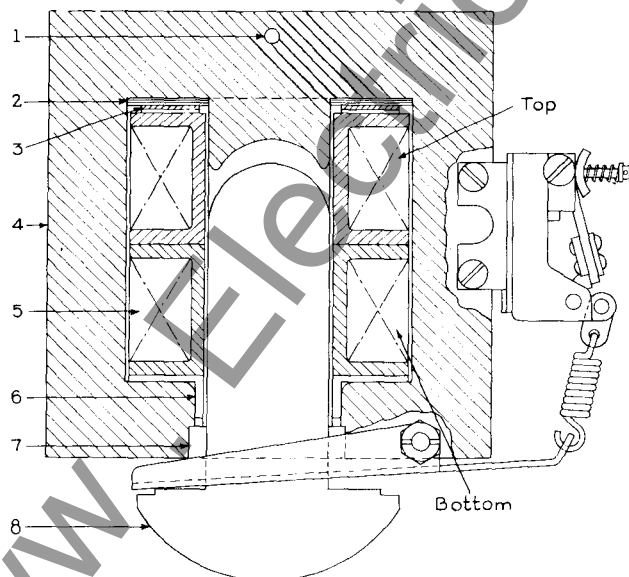

Fig. 5. CR9503-212A, -213A, -214A and -215A solenoids with cutout switch
Class 5 consists of the CR9503-212A, -213A, -214A and -215A solenoids, as shown in Fig. 5.
CLASS 5 (SEE FIG. 5)
To assemble, invert the solenoid frame and locate the insulation pieces (2) and springs (3) as shown in Fig. 5. Place the two coils with the projections interlocked on top of the springs. Assemble the angle guides and plunger guides and fasten with the cotter key. If the solenoid is of the push-pull type, guides (7) and cotter key (1) are omitted. If a cutout switch is used, assemble it as shown in Fig. 5.